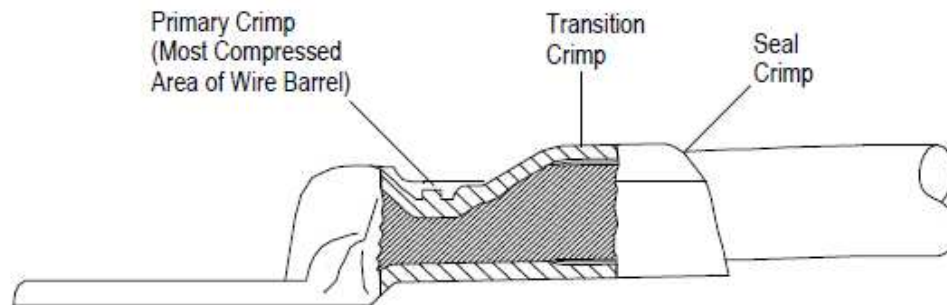

Figure 4
The crimp applied to the terminal or splice is accomplished in three stages during the crimping cycle: (1) primary, (2) transition, and (3) seal, as shown in Figure 4.